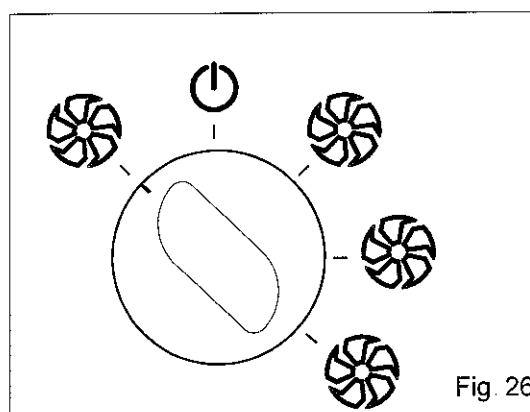

Fig. 26
- Turn the knob to the position shown in Fig. 26.